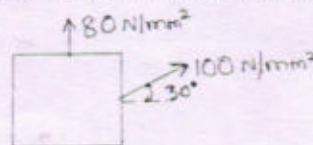

Fig.Q3(c)
- c. At a point in a strained material, the state of stresses is as shown in Fig.Q3(c). Determine the principal stresses, maximum shear stress and sketch the orientation of the principal planes.